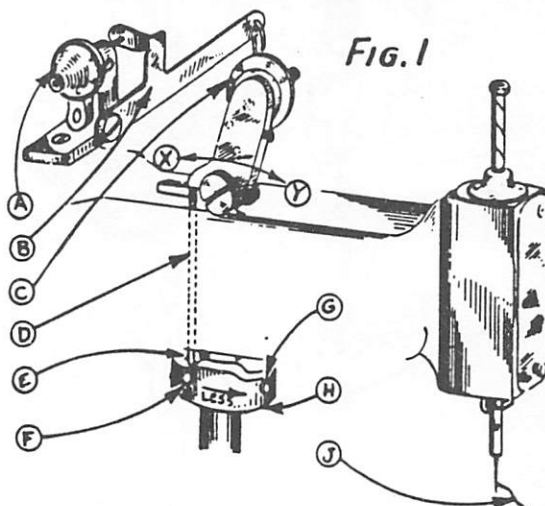

FIG. 1
TO OBTAIN MAXIMUM LENGTH OF STARTING THREAD AT (J) PROCEED AS FOLLOWS: MAKE SURE MACHINE IS IN ITS NORMAL STOPPING POSITION. LOOSEN SCREWS (F) AND (G) AND ROTATE CAM (H) TO THE POINT WHERE PIN (D) IS AT THE BOTTOM OF THE CAM DROP AT (E) AS SHOWN FIG. 1. THEN TIGHTEN SCREWS (F) AND (G) SECURELY.
TO RELEASE THE LENGTH OF STARTING THREAD AT (J) ADJUST THE POSITION OF CAM (H) AS REQUIRED IN THE DIRECTION OF ARROW MARKED LESS, FIG. 1.